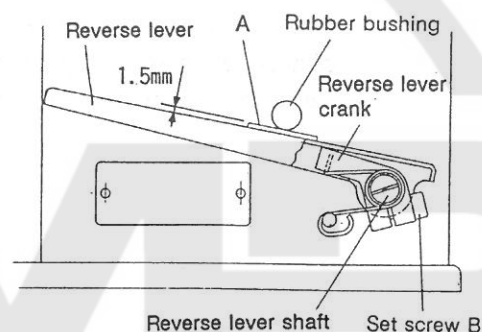

Fig. 17
4.4 Installation of Reverse Lever Crank (Fig. 17)